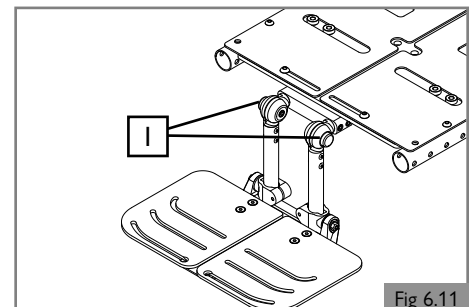

Fig 6.11
6.7 Angle adjustable center mount footrest (Option) (Fig 6.11)